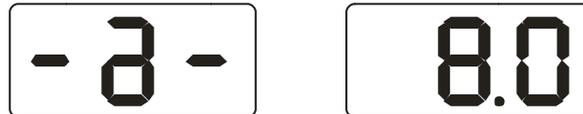

Fig 7-1
After the power-on of the machine, it starts initialization automatically. The initialization will be finished after two seconds. The machine enters normal dynamic balancing mode (clamp counterweights on the both rim edge) automatically, as in Fig 7-1, ready for input data of rim
9.1 After the power-on of the machine, the initialization is finished (Fig 7-1), install a middle size balanced rim which can be clamped with counterweight, follow 7.2 to input data of rim;
10.1 Press [a-] or [a+] key, Fig 7-1;